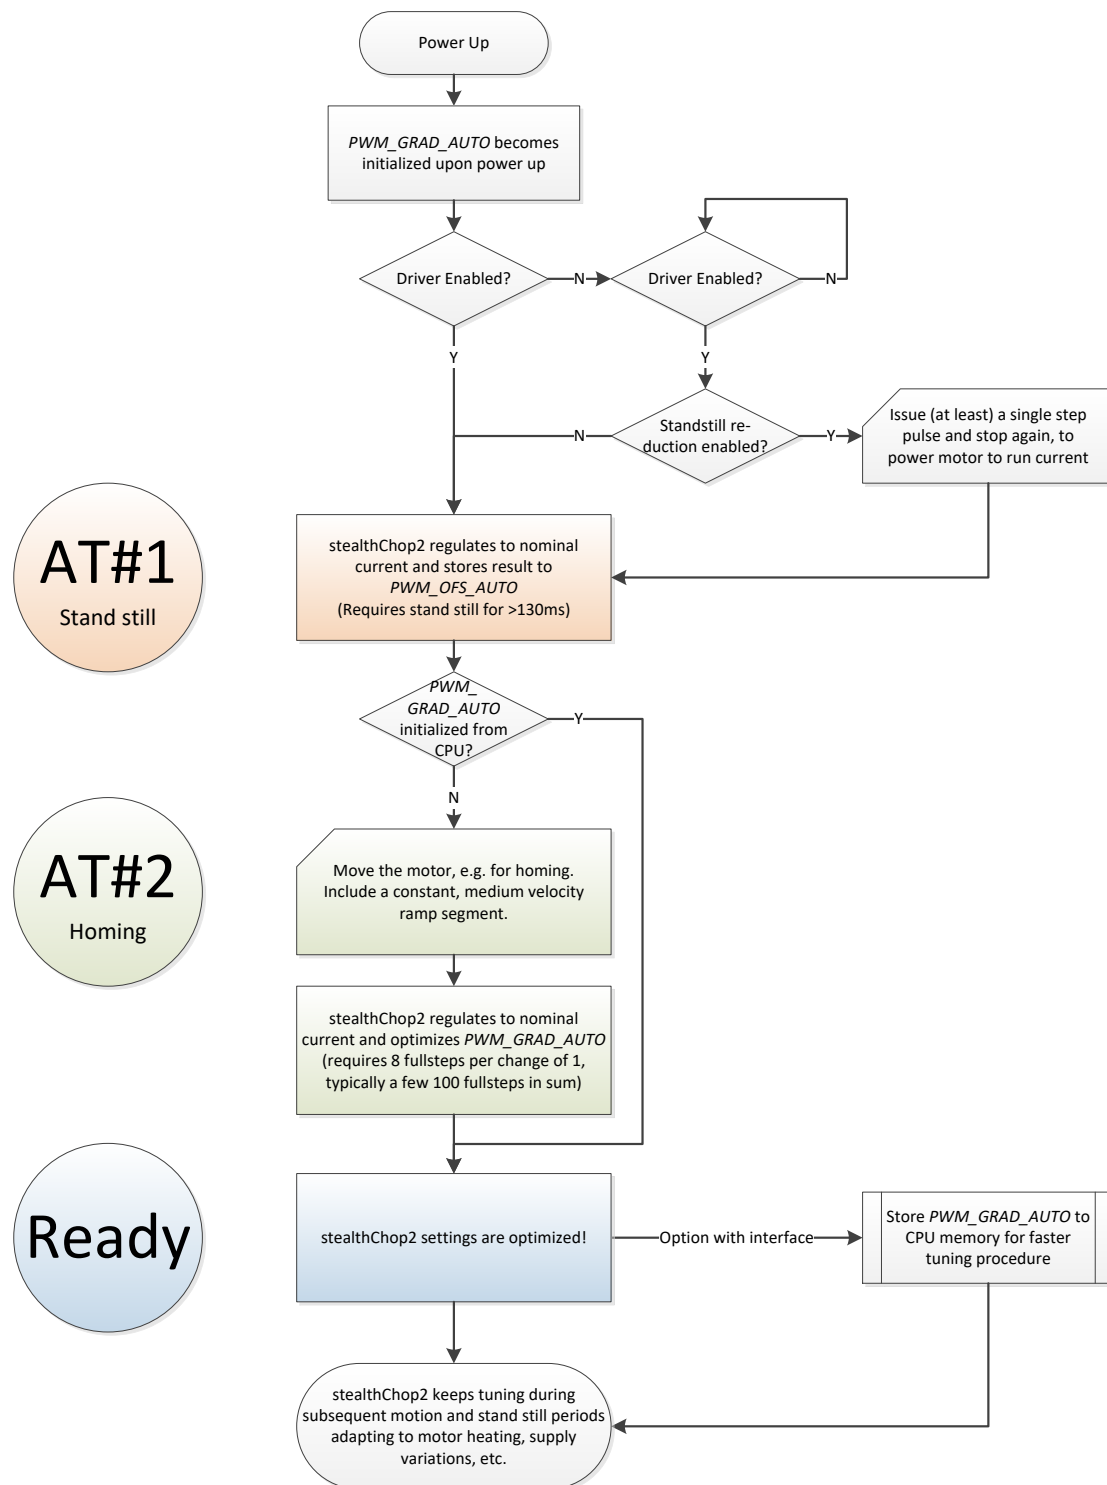

Figure 7.2 StealthChop2 automatic tuning procedure
StealthChop2 integrates an automatic tuning procedure (AT), which adapts the most important operating parameters to the motor automatically. This way, StealthChop2 allows high motor dynamics and supports powering down the motor to very low currents. Just two steps have to be respected by the motion controller for best results: Start with the motor in standstill but powered with nominal run current (AT#1). Move the motor at a medium velocity, e.g., as part of a homing procedure (AT#2). Figure 7.2 shows the tuning procedure.